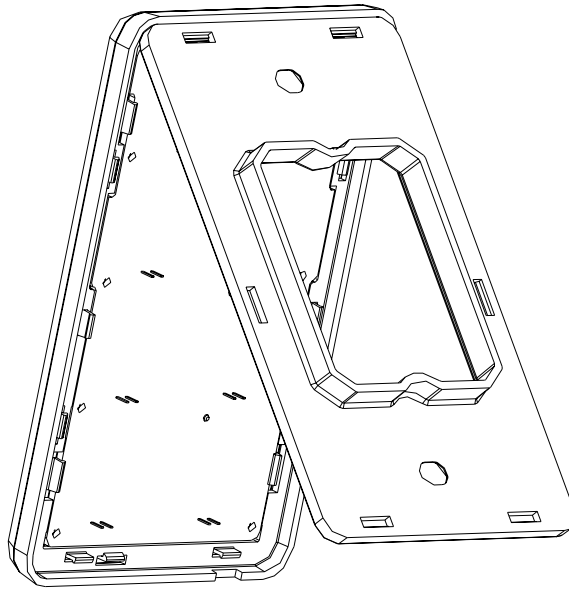

FIG. 10 Attaching the faceplate to the mounting frame
6. Attach the faceplate to the mounting frame first at the top and swing it to the bottom. See FIG. 10.
6. Attach the faceplate to the mounting frame first at the top and swing it to the bottom. See FIG. 10